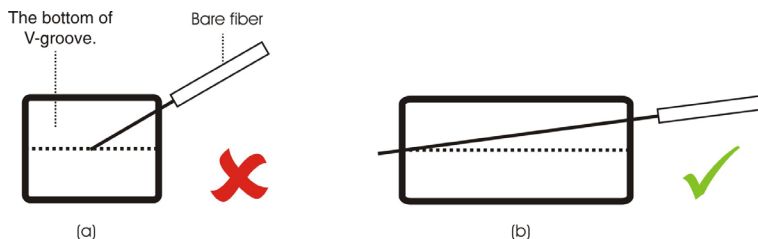

Figure 5.-
- 2.- Open the fiber holder separately ,Load cleaved fiber into V-groove, and the end-surface couldn't touch the bottom of V-groove, consult figure 5 (a)~(b).